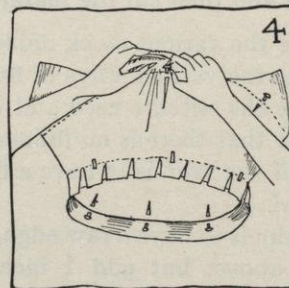

FIG. 4.
- (2) With pins at headsize, repin material at edgewire, drawing with the grain of goods and on bias, until it is smooth (see Figure 4).
- (3) Work the fullness away from the headsize and keep the fullness in the section where it belongs.
- (4) Show your work to your teacher before going on with the next step.